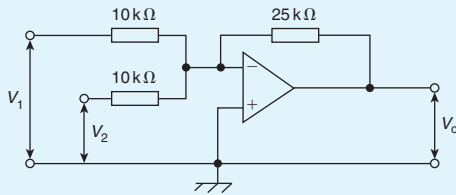

Figure 19.19
2. In the circuit of Fig. 19.19, determine the value of the output voltage,  $V_o$ , when (a)  $V_1 = +1\text{ V}$  and  $V_2 = +3\text{ V}$  (b)  $V_1 = +1\text{ V}$  and  $V_2 = -3\text{ V}$